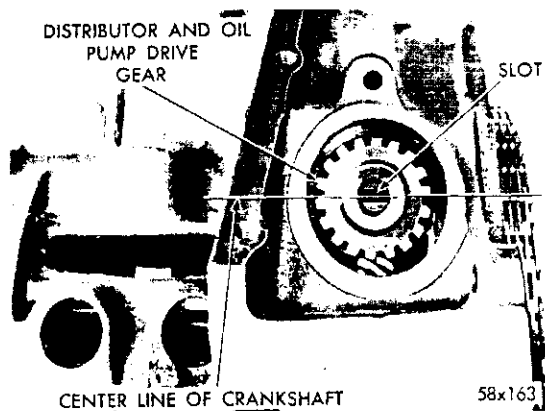

Fig. 38—Distributor Drive Gear Installed
- (1) Rotate the crankshaft until No. 1 cylinder is at top dead center on firing stroke.
- (2) When in this position, the straight line on the vibration damper should be under "0" on the timing indicator.
- (3) Coat the shaft and drive gear with engine oil. Install the shaft so that after the gear spirals into place, it will index with the oil pump shaft, so that the slot in top of the drive gear will be parallel with the center line of the crankshaft, as shown in Figure 38.